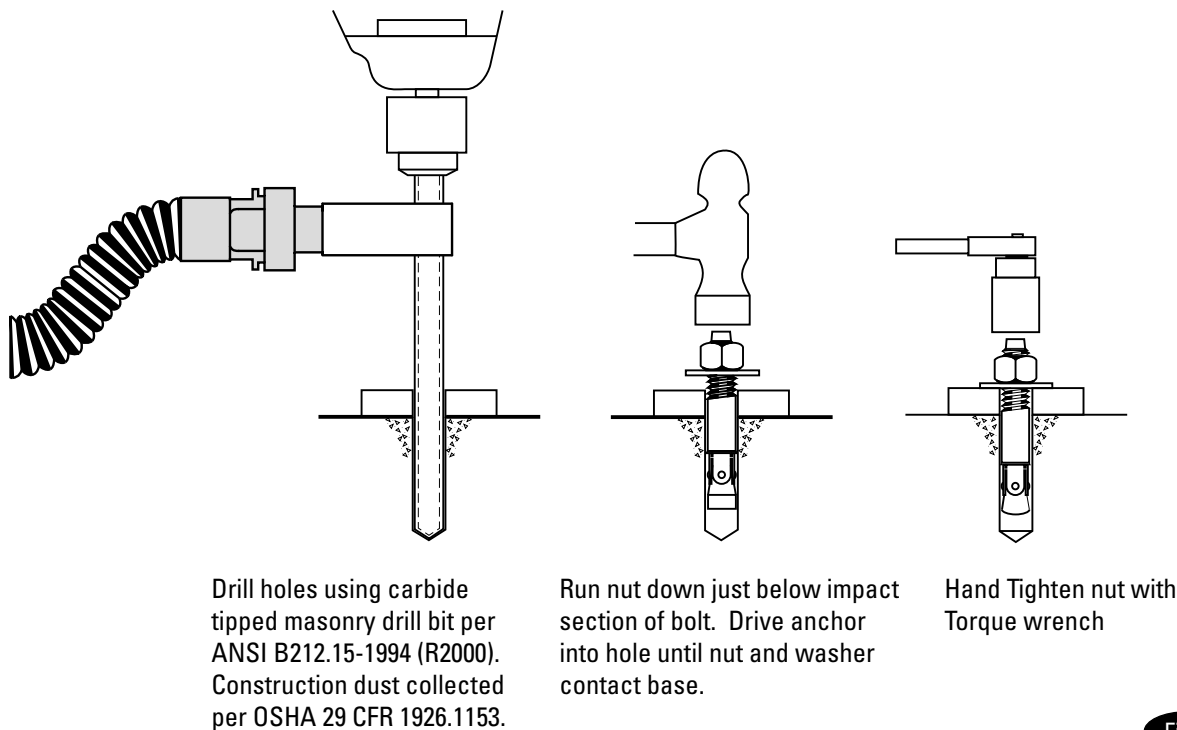

Fig. 4
If you are installing a seismic lift, consult with a structural engineer and manufacturer's representative for concrete and anchoring requirements (varies by location). Fig. 4 and the below table apply to non-seismic lifts only.
Drill (10) 3/4" dia. holes in concrete floor using holes in column base plate as a guide. See Fig. 4 for hole depth, hole spacing, and edge distance requirements.